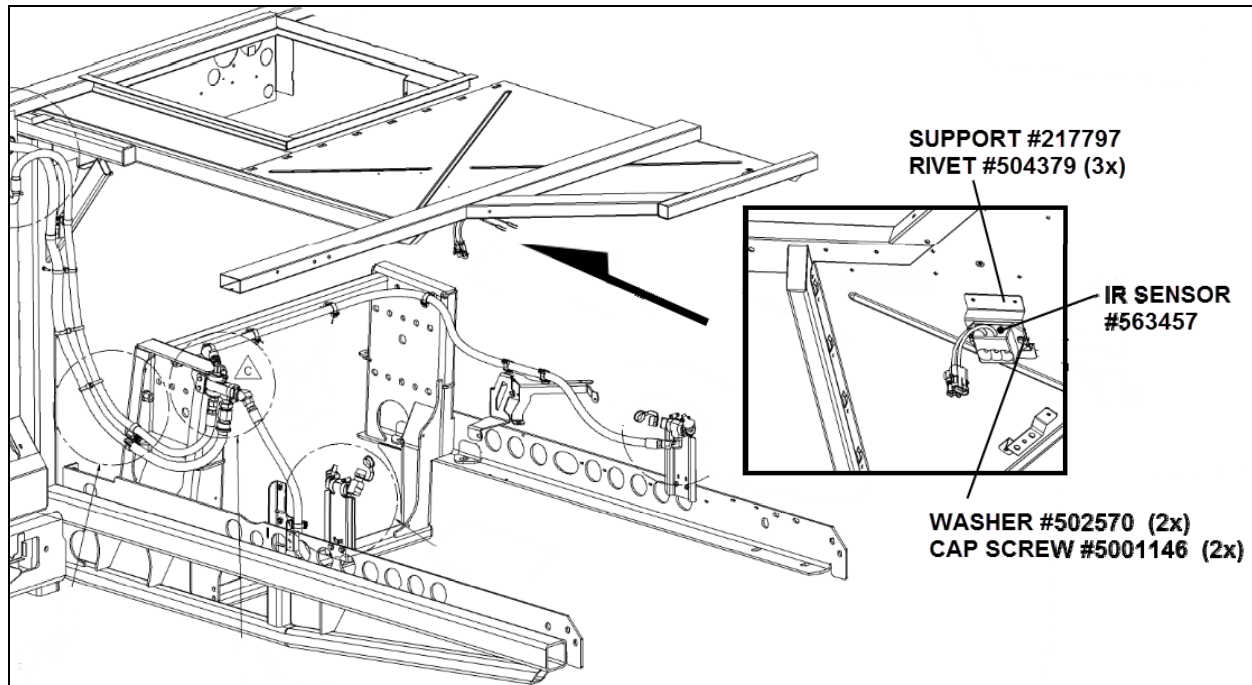

FIGURE 15
- 1) Install the new IR sensor at new location as shown on FIGURE 15. The IR sensor will be installed on the stainless steel panel on top of the engine.